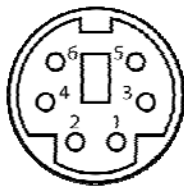

Figure 3-21: Keyboard Pinout and Configuration
- CN Location:** See **Figure 3-21**